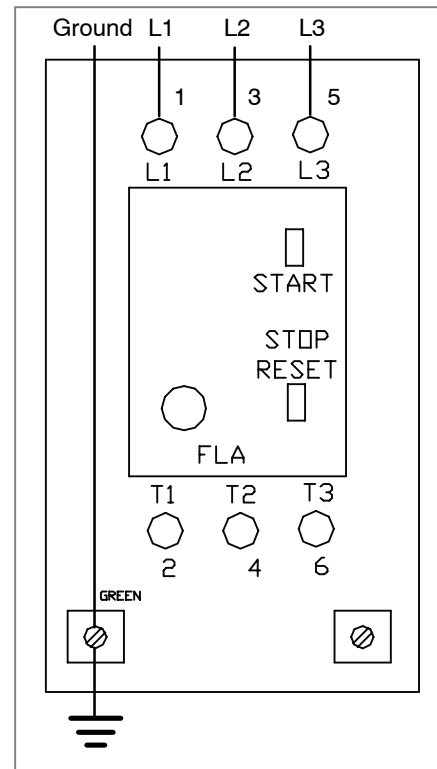

Figure 23
2. Insert line cord through grip (AR) and tighten nut.
3. For correct three-phase motor shaft rotation, connect line phase sequence L1, L2 & L3 to terminals as shown (Figure 23).
NOTE: The motor ground wire is also attached to left terminal marked \perp (Figure 23).
4. Attach ground wire to lower left terminal marked \perp (see Figure 23).